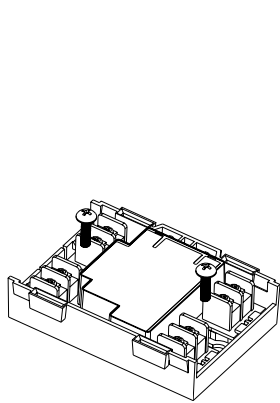

Fig. 9
- Installation directly in a switching cabinet or a control unit: mount the module on an even surface (Fig. 9).
2. Place the module in the housing and fix it with two screws (Fig. 9/10).
2. Fix the module with two screws (M4 X15) (Fig. 9). Distance between holes:  $63.5 \pm 1.0$ mm